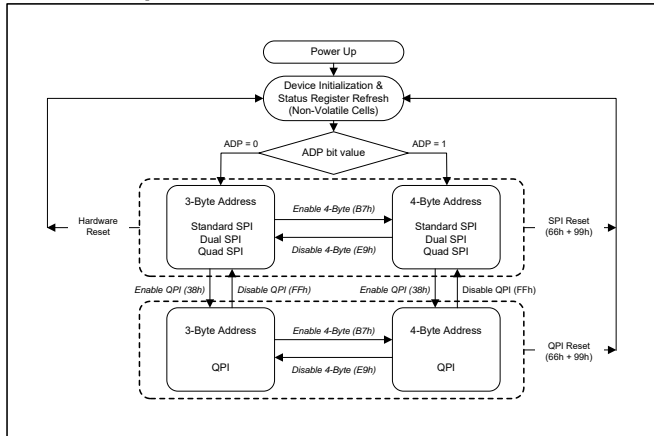

Figure 3. AS25F3256MQ Flash Memory Operation Diagram
The AS25F3256MQ supports Quad Peripheral Interface (QPI) operations only when the device is switched from Standard/Dual/Quad SPI mode to QPI mode using the “Enter QPI (38h)” instruction. The typical SPI protocol requires that the byte-long instruction code being shifted into the device only via DI pin in eight serial clocks. The QPI mode utilizes all four IO pins to input the instruction code, thus only two serial clocks are required. This can significantly reduce the SPI instruction overhead and improve system performance in an XIP environment. Standard/Dual/Quad SPI mode and QPI mode are exclusive. Only one mode can be active at any given time. “Enter QPI (38h)” and “Exit QPI (FFh)” instructions are used to switch between these two modes. Upon power-up or after a software reset using “Reset (99h)” instruction, the default state of the device is Standard/Dual/Quad SPI mode. To enable QPI mode, the non-volatile Quad Enable bit (QE) in Status Register-2 is required to be set. When using QPI instructions, the DI and DO pins become bidirectional IO0 and IO1, and the /WP and /HOLD pins become IO2 and IO3 respectively. See Figure 3 for the device operation modes.